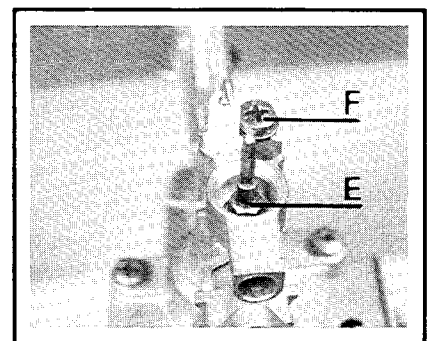

Fig. 4
5) Thermocouple (fig. 4 and 5).
- With a 7 m.m box spanner, unscrew the nut E (fig. 4) holding the thermocouple into the gas section.
6) Spark Electrode (fig. 4).